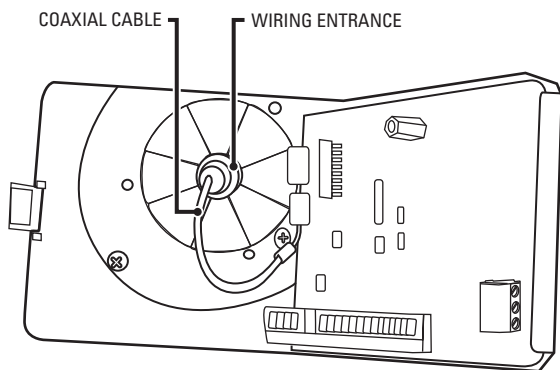

Figure 7. Routing Spectra III/Spectra IV Coaxial Cable
3. (*New Spectra III/Spectra IV installation only*) Route the BNC connector and coaxial cable through the wiring entrance at the rear of the back box to provide clearance for mounting the FS85011A transmitter to the Spectra III/Spectra IV circuit board (refer to Figure 7 on page 13).